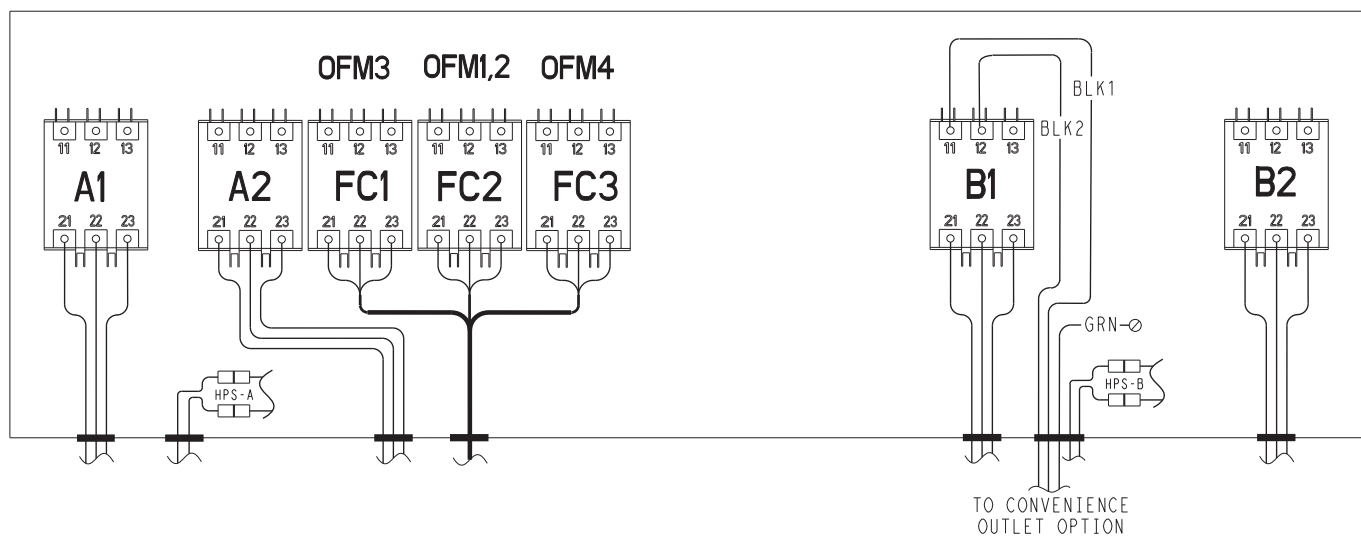

Fig. 7 — Accessory Convenience Outlet Control Box Wiring — 30RAP035-060, 38APS040,050, 38APD040-060 Units
9. In the control box, attach the black wire labeled 1 to the 11 connection on the B1 compressor contactor. Attach the black wire labeled 2 to the 12 connection. Attach the green ground wire to the ground terminal in the control box. See Fig. 7.
8. Route the power wire up and into the bottom of the right side of the control box as shown in Fig. 7. Wire ties are supplied with the kit to secure the power wire.